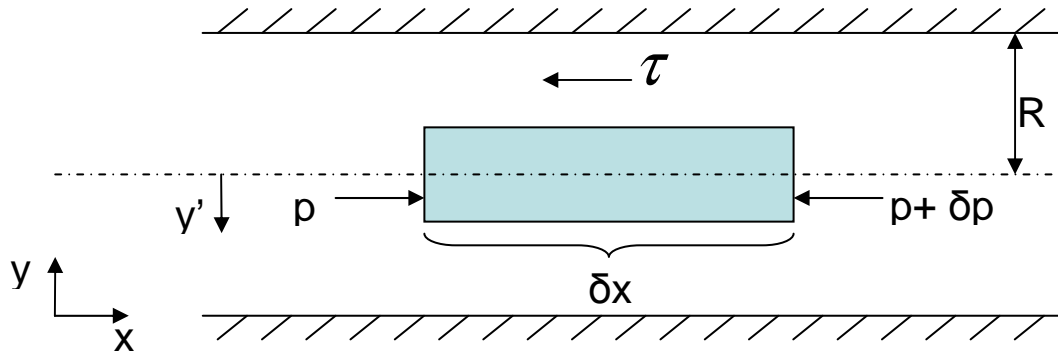

Fig. 1
(1) Plane Poiseuille Flow: Consider the flow between two infinitely wide plates, driven by a pressure gradient, as shown in Fig. 1.